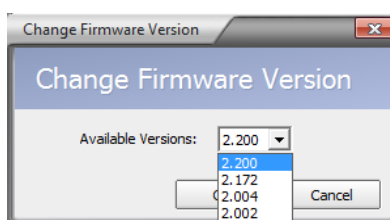

Figure 6.2—Change Firmware Version dialog
2. Select the firmware version you wish to use from the *Change Firmware Version* dropdown list, as shown in Figure 6.2.